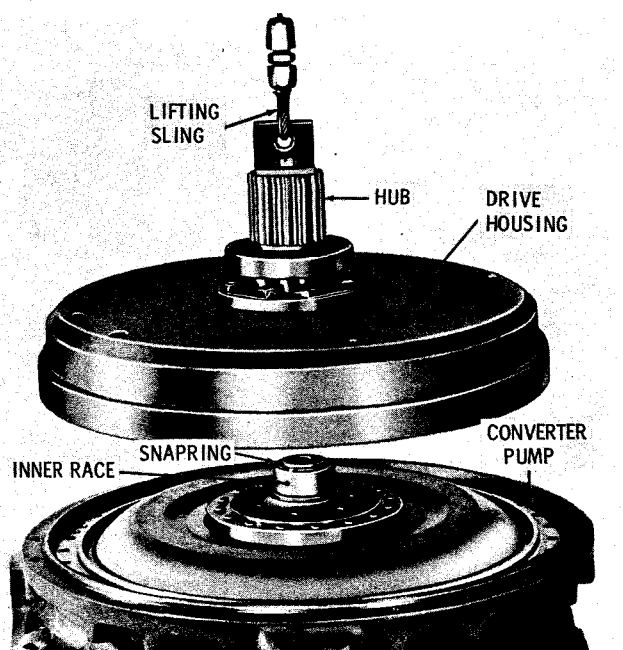

Fig. 7-83. Installing converter drive housing assembly (CT, CBT) S1722
(1) On models having no lockup clutch, install the torque converter turbine (fig. 7-83). Make sure that either an internal snapping is in the hub of the turbine or, in earlier models, an external snapping is in place on the turbine output shaft prior to turbine installation. Continue assembly through (4), below.
(2) On models having no lockup clutch, install bearing spacer 3(A, foldout 6) only when snapping 4 is used in the bore of turbine 8.
(3) Install the roller bearing inner race onto the turbine output shaft (fig. 7-83). Install the snapping that retains the race.
(4) Install the converter drive housing assembly onto the converter pump (fig. 7-83).